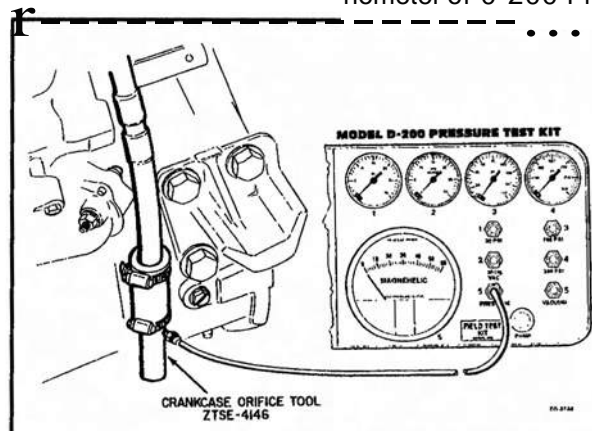

Figure 2.3-15. - Crankcase Pressure Test
4. Connect a line from the restrictor tool (Figure 2.3-15) to a water manometer or to the pressure side of the magnehelic gauge on the 0-200 Pressure Test Kit (ZTSE-2239). **NOTE:** Install a quick connect plug in the vacuum port of the gauge to vent it to atmosphere. (Make sure that the magnehelic gauge has been zeroed)